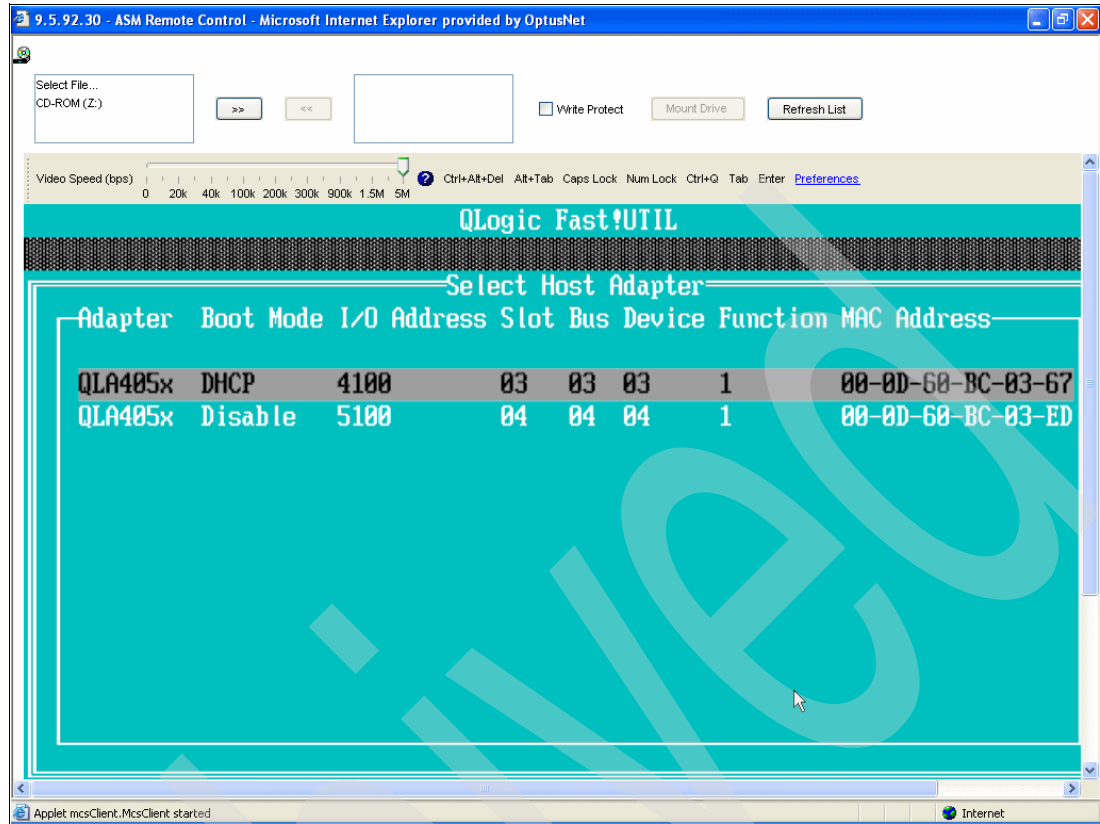

Figure 9-57 QLogic Fast!UTIL display
3. After a minute or two, you see the display shown in Figure 9-57 on page 427.
Figure 9-57 shows two initiator HBA ports that are installed in the xSeries or Blade server, their MAC addresses, and other configuration information.
In Figure 9-57, the second port is the one, which has just been installed. You can tell which port has just been installed from its MAC address, because you would have previously recorded the MAC address of the first port you installed in order to configure the IP addresses in the RMTSYS object for this xSeries or Blade server.
Alternatively, you can tell which port has just been installed by comparing the MAC addresses shown in Figure 9-57 with the MAC addresses printed on a sticker attached to the adapter. An xSeries HBA has a label with two MAC addresses (one for the SCSI side and the other for the LAN side), whereas a Blade HBA has a label with four MAC addresses (one for the SCSI side and the other for the LAN side of both ports). The SCSI side MAC is labelled "iSCSI" and the LAN side is labelled "TOE" (TCP Offload Engine). Note that you need to record the MAC addresses on the Blade HBA before you install it, because the sticker is not visible once the HBA is installed.
In the example shown in Figure 9-57, these values are: 3, 3, and 1 respectively. You need this information later when you specify the boot port in the RMTSYS object.
- Record the MAC address of the initiator HBA port you just installed, *not* the boot port! In Figure 9-57 on page 427, the value is: 00 0D 60 BC 03 ED.